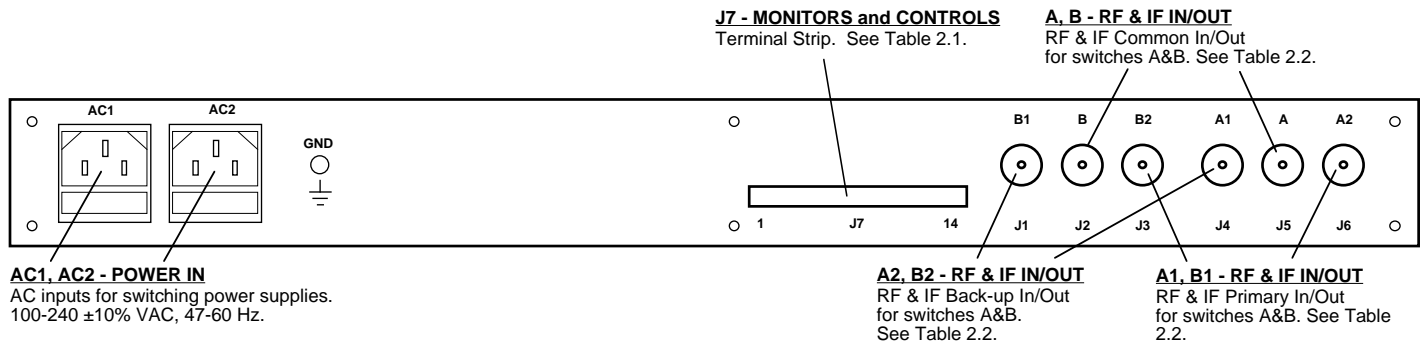

FIGURE 2.2 1582-71/72 RF Switch Rear Panel Inputs/Outputs
2.2 Input and Output Signals - Figure 2.2 shows the input and output connectors on the rear panel.
4. Connect to signals on the MONITORS AND CONTROLS connector, J7, as desired (See Figure 2.2, Table 2.1).